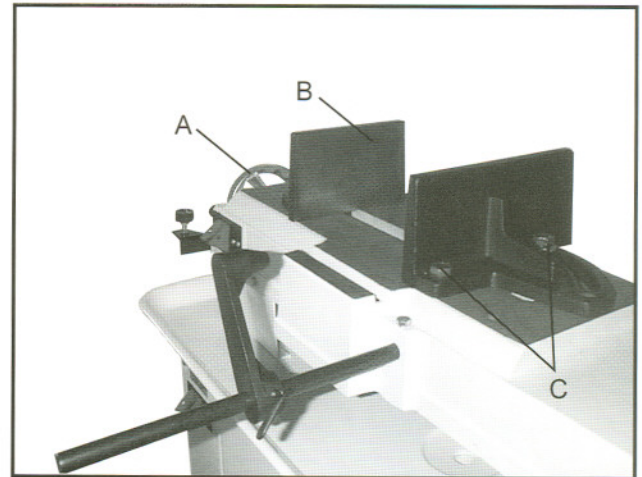

Fig. 9
1. Remove the bolt and nut assemblies (C, Fig. 9).
2. Position the vise and re-install the bolt assemblies as pictured in Fig 9.